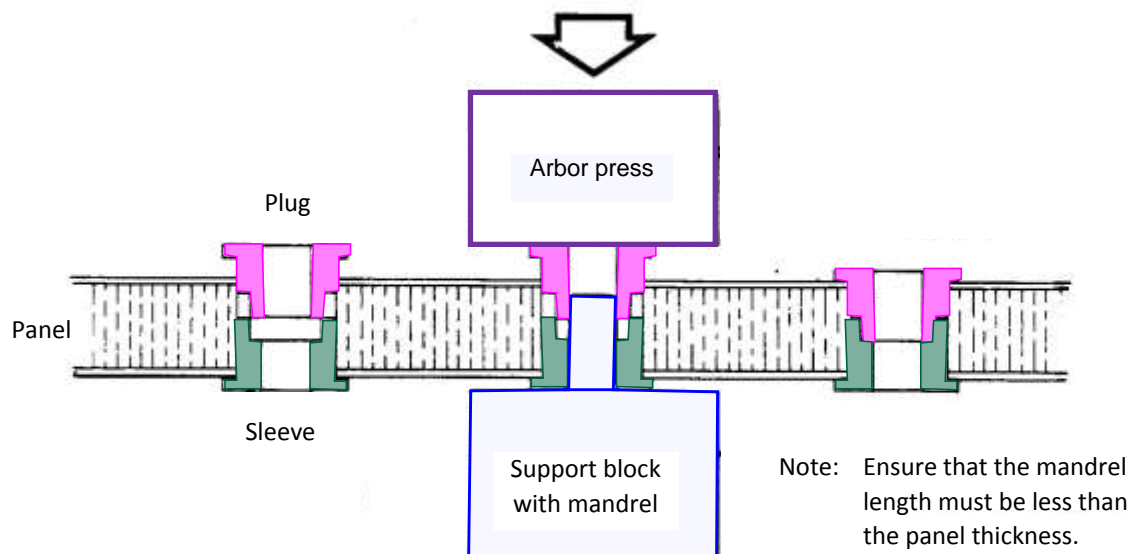

Figure 4. Installation of Delron Inserts using an Arbor Press
- Step 2. Align the sleeve and plug by inserting a mandrel into the insert or into the press post as shown in Figure 4. For flush head inserts, use a flush head mandrel to align the sleeve and plug.